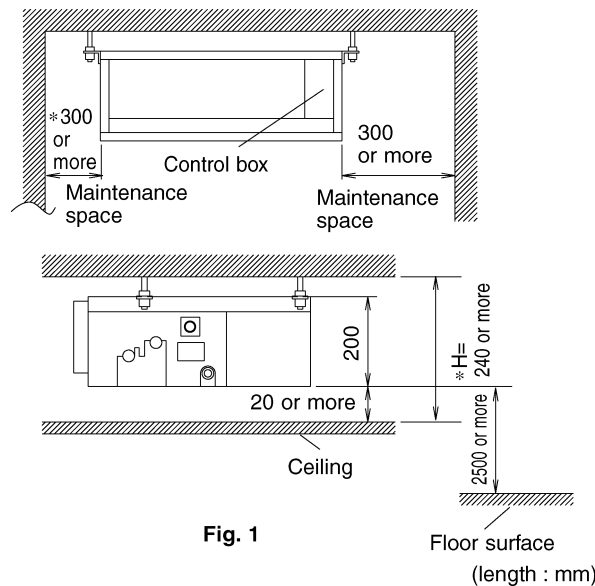

Fig. 1
- Where sufficient clearance for maintenance and service can be ensured. **(Refer to Fig. 1)**